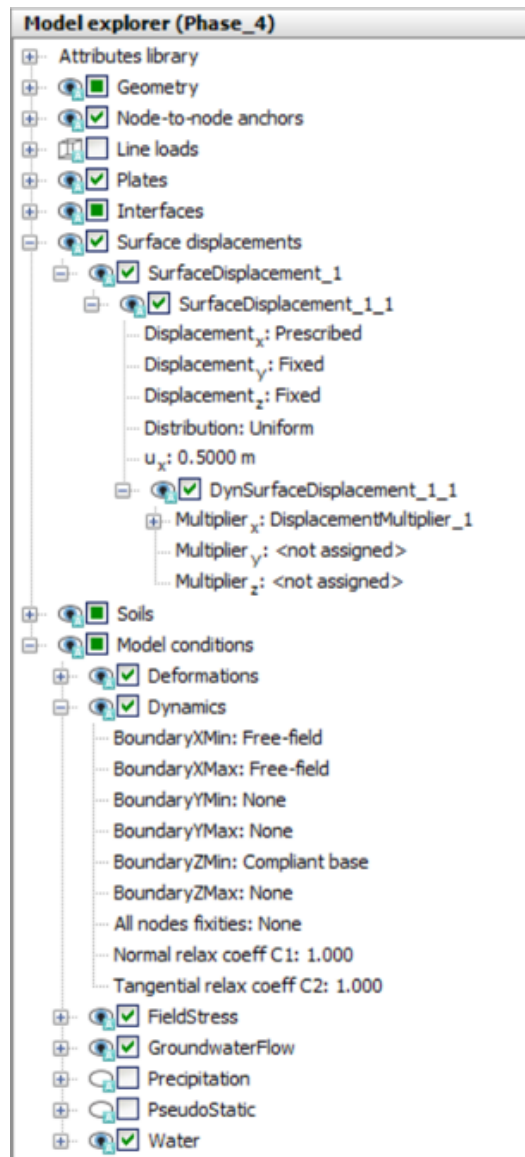

Figure 9–10: Boundary conditions for dynamics calculations (Phase_4)
- 10 Expand the **Dynamics** subtree. Set the **Free-field** option for the boundaries in the x direction. The boundaries in the y direction are already set to **None**. Set the boundary Zmin to **Compliant base** (see Figure 9–10 \(p. 173\)).